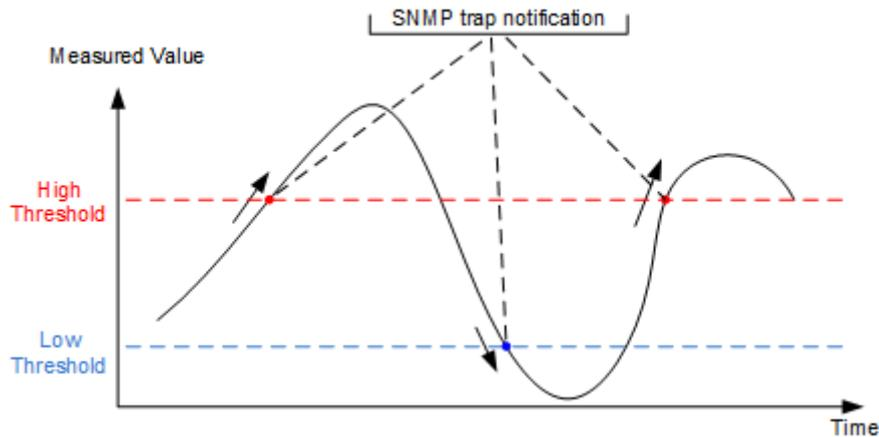

Figure 7.20. Sending traps with Traps Sending=Level Triggered
- If **Traps Sending** parameter from web page SNMP Traps Settings is set to "Level Triggered" and the Analog Input measured value is less or equal than **Low Threshold** or greater or equal than **High Threshold** traps will be sent in intervals of 5 seconds (Fig. 7.20);